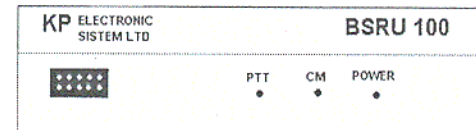

Figure 2: Self-Test LEDs
2. Observe the Self-Test LEDs (see Figure 2).